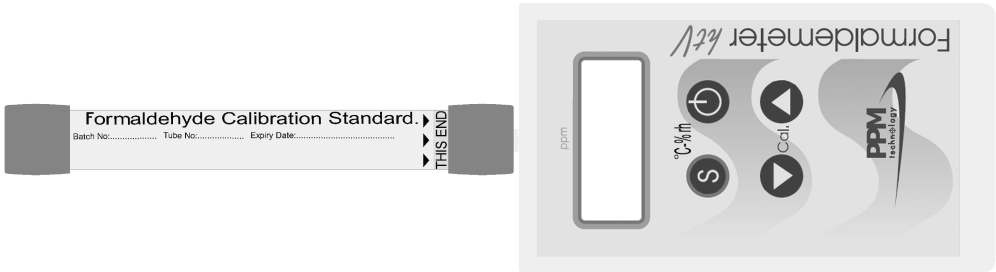

Fig 1.2 Formaldemeter™ *htV* with Calibration Standard Inserted
3. Insert the instrument nozzle into the sampling end of the Calibration Standard (refer *fig 1.2*). To ensure a good seal around the instrument nozzle apply gentle pressure to Calibration Standard against the instrument when taking a sample.
3. Insert the instrument nozzle into the sampling end of the Calibration Standard (refer fig 1.2). To ensure